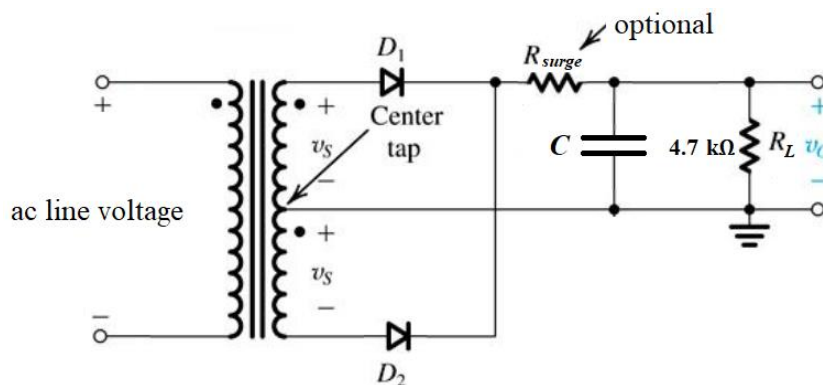

Figure 4.2 Rectifier using a center-tapped transformer.
1. Connect the circuit shown in Fig. 4.2 initially without D_2 .
2. Using an oscilloscope, display $v_S(t)$ on channel I (X) and $v_O(t)$ on channel II (Y).